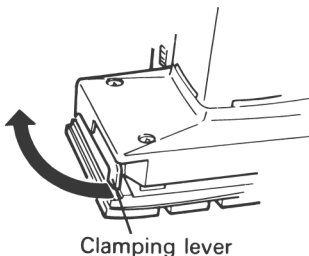

Fig. 2
- (1) Open paper holder by turning clamping lever.(Fig. 2)